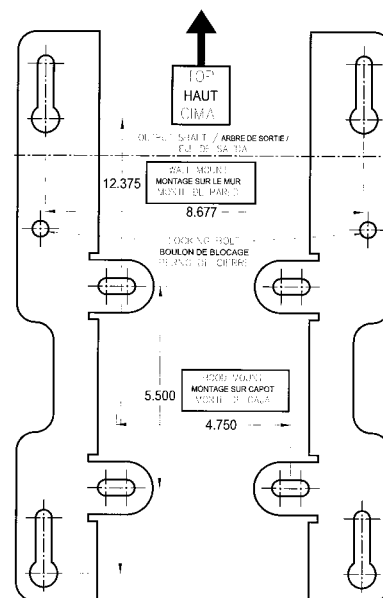

Figure 6 - Opera Mounting Holes
2. Locate the four mounting holes, as shown in Figure 6.